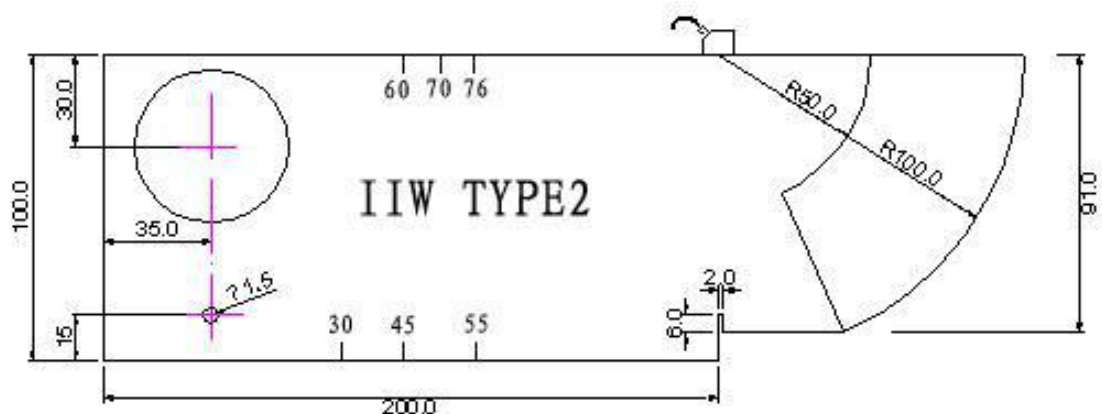

Fig.4.1 50/100 echo
- (1) Select CABT in group Auto C (Automated calibration of transducer) by the < Auto Calibrate > key, by the <Enter > key, you can see 50/100 echo, then put your probe as fig4.1 . Try to find the highest echo of 100, then press the <Enter > key twice, the zero point and sound speed of material has been calibrated. then press the <Enter > key, you will see x (front edge)=XXX.XXmm, please read it and input it.